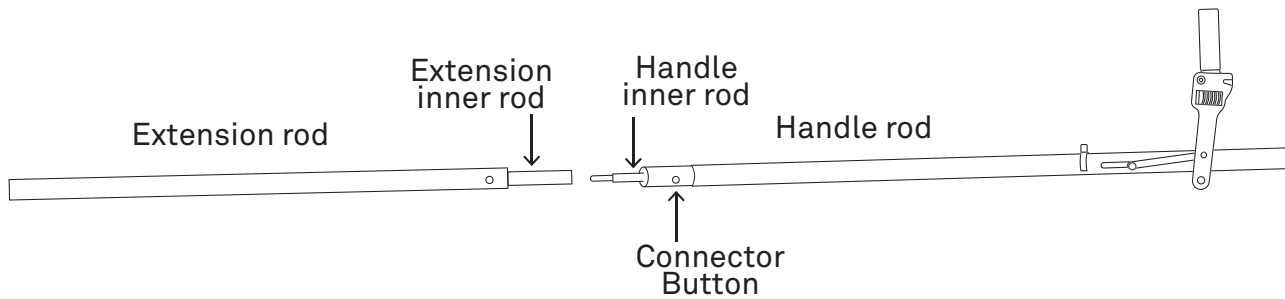

Figure 6 Connect inner extension rod to inner handle rod
- Connect the handle inner mount to the inner extension rod (Figure 6).